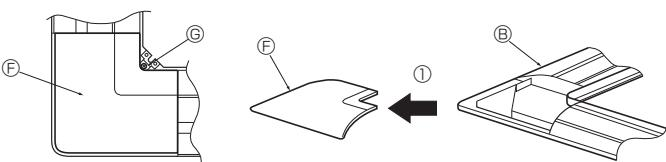

Fig. 8-4
8.2.2. Removing the corner panel (Fig. 8-4)
- Remove the screw from the corner of the corner panel. Slide the corner panel as indicated by the arrow ① to remove the corner panel.
⑧ Intake grille
⑨ Grille
⑩ Intake grille levers
⑪ Grille hook
⑫ Hole for the grille's hook
⑬ Corner panel
⑭ Screw